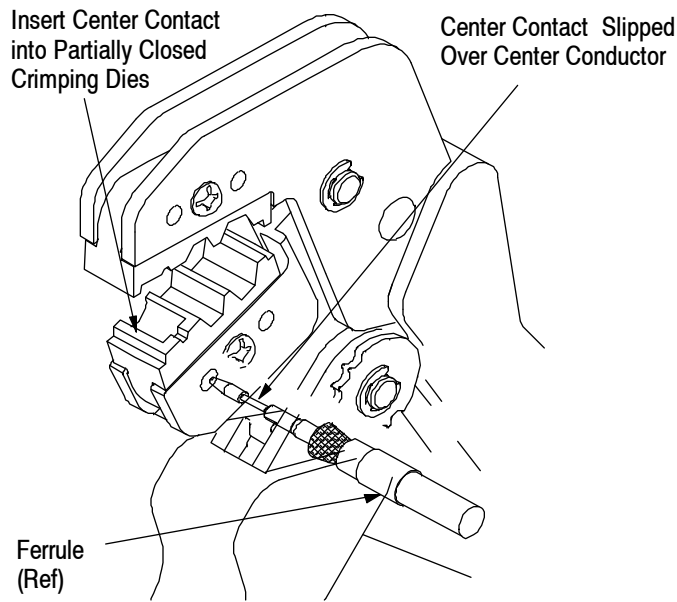

Figure 2
**3. CRIMPING PROCEDURE** (Figure 2 and Figure 3)
**NOTE** Center the crimping area of the contact in the dies. See Figure 2. If contacts have a flange on the crimping portion, butt the flange against dies (Figure 3).